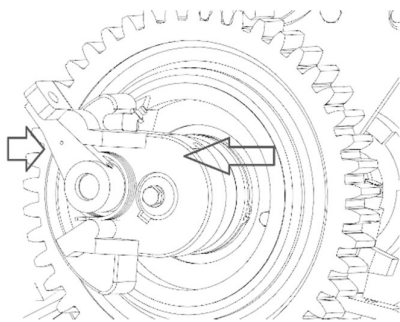

Figure 37: Actuating latch and scissors
- Actuating latch and cotter are removed (Figure 37).